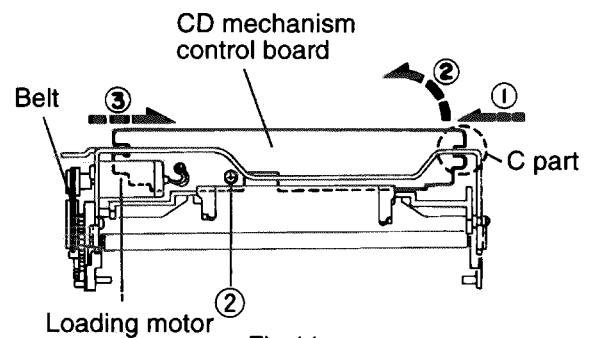

Fig.11
5. After disengaging the engagement between the notch section and frame,remove the CD mechanism Control P.C .board successively from ① through to ③ in the arrow direction as shown in Fig. 11.